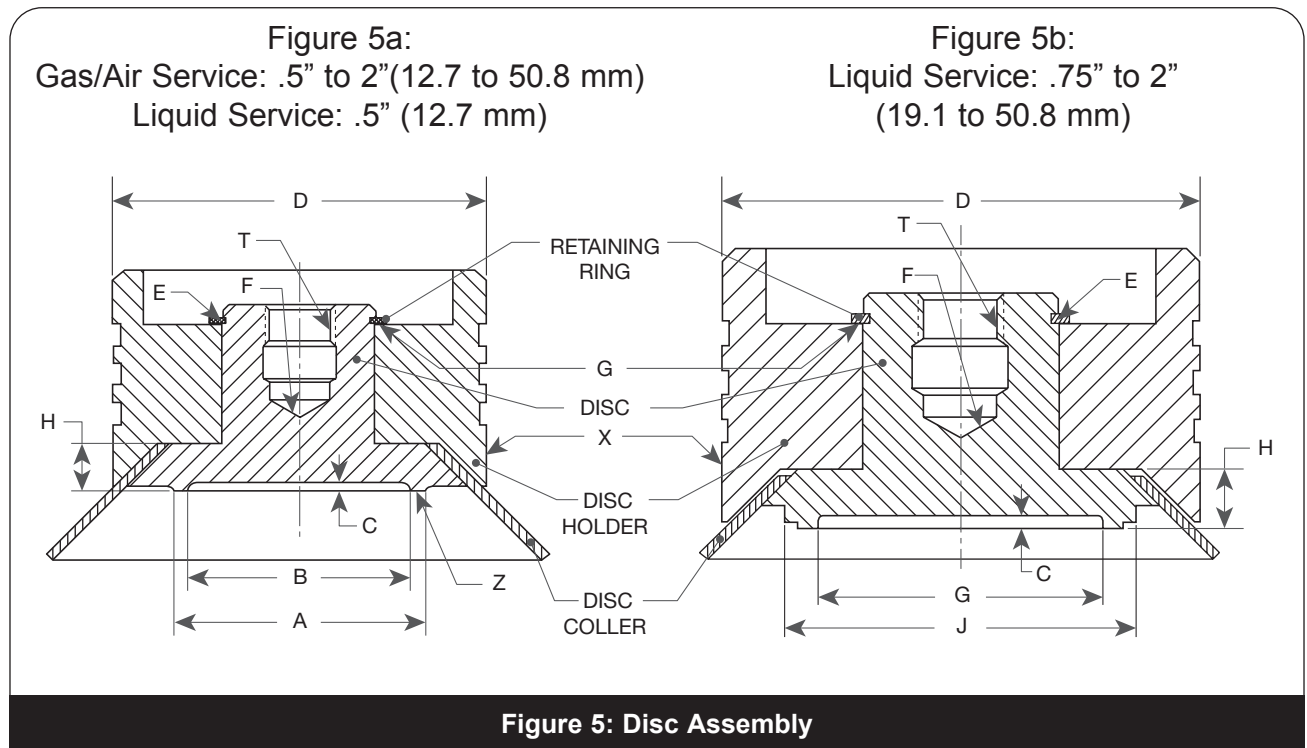

Figure 5: Disc Assembly
When the seats cannot be repaired by lapping, they can be remachined using dimensions given in Figure 5 and Table 1. The following procedure can be used when machining the base seat:
- b. Take light cuts on the seat surface until all damage is removed. Reestablish dimensions as shown in Figure 5 and Table 1.
## 2. Disc Holder Replacement criteria, Figure 5 and Table 1
- Outside diameter (D) is galled or exceeds minimum dimension. It requires 32 RMS finish.
- Retainer ring shoulder (G) is worn.
- Exceeds dimensions mentioned in Table 1 and Figure 5.
## 3. Disc Replacement Criteria, Figure 5 and Table 1
- a. Seat surface (Z) is nicked, or dimension (C) is reduced to .025" (0.64 mm).
- b. Spindle pocket surface (F) is pitted or galled, it requires 63RMS finish.
- c. Threads (T) are torn, galled or stripped.
- d. Retainer Ring groove (E) is worn.
- e. Disc height (H) exceeds minimum dimension.
- f. Exceeds dimensions mentioned in Table 1 and Figure 5.
## 4. Disc Retainer Replacement criteria, Figure 5